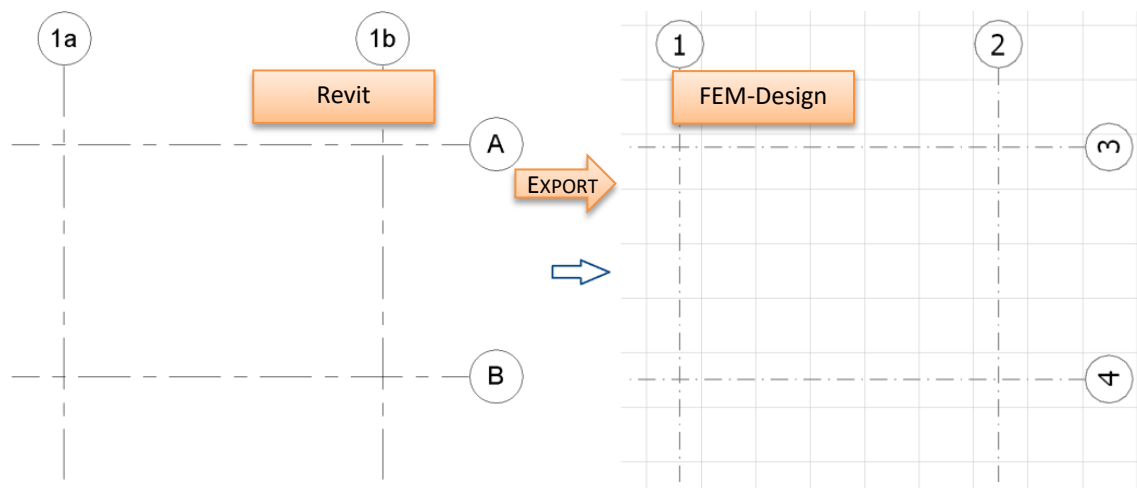

Figure III-20
- Names of the grids are not exported. Each axis in FEM-Design will receive a new number based on the order of grid creation in Revit, as shown in Figure III-20. If necessary, renaming can be performed in FEM-Design.